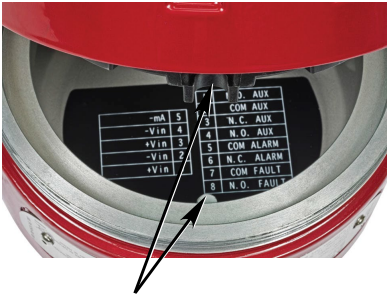

Figure 10—Alignment Guide Location
3. Use the alignment guide (see Figure 10) when installing the retaining ring back on the junction box.